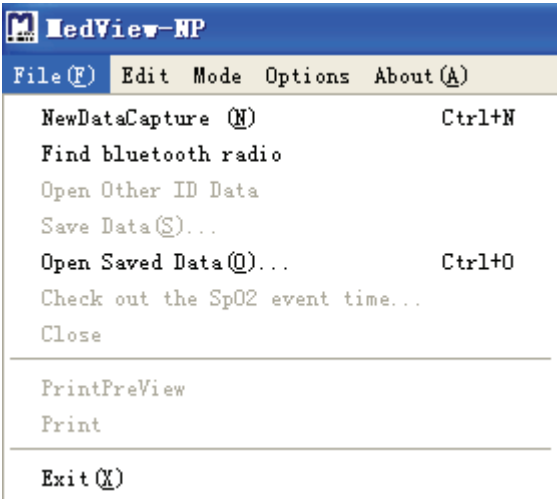

Figure 3-2
3.1.2 Click the “File(F)” icon, and then click the “New Date Capture” in the drop-down menu, as shown in Figure 3-2.